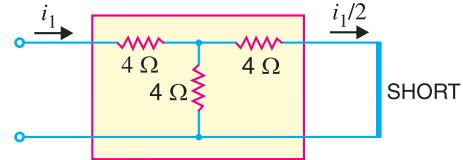

Fig. 24.5
**Example 24.2.** Find the  $h$  parameters of the circuit shown in Fig. 24.5 (i).
**Solution.** First of all imagine that output terminals are short-circuited as shown in Fig. 24.5 (ii). The input impedance under this condition is the parameter  $h_{11}$ .